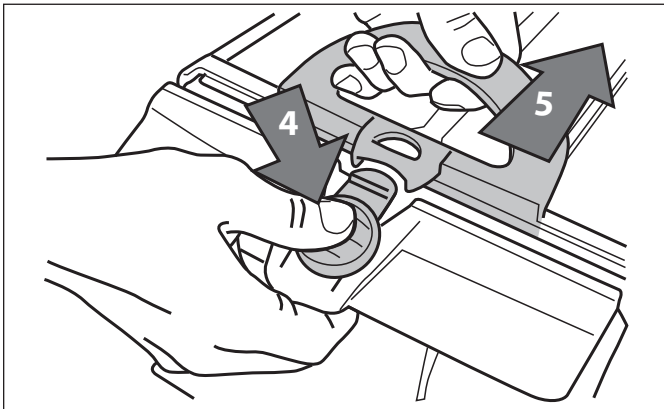

Figure 23. Open Filter Assembly
7. Push the quick release button on the canister assembly (4) and pull open the filter assembly (5). Refer to Figure 23.